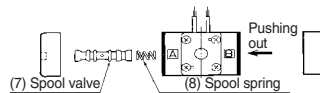

Fig. 3
- Push spool valve (7) and spool spring (8) out from the end cover side (the letter "B" side of the body) of body (3). (Do not push them out from the opposite direction. Fig. 3)